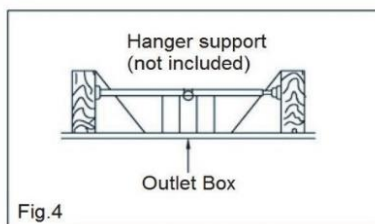

Fig.4
4. To hang the fan in locations where no ceiling joists is available. A hanger support bar may be required (Fig. 4)